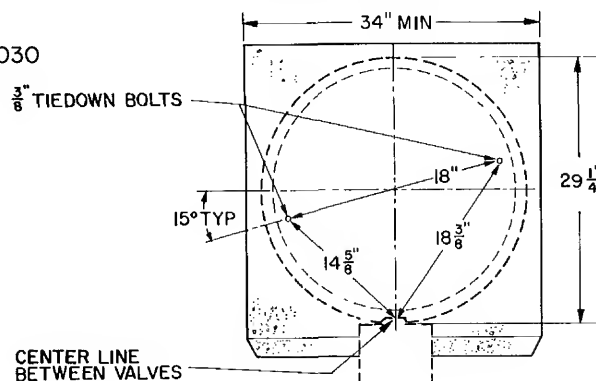

Fig. 3 — Dimensions, Connections and Mounting Pad (Refer to Tables 1 and 2.)
INSTALL OUTDOOR UNIT — Install outdoor unit on a solid, level mounting pad on roof, ground or balcony. It is recommended that unit be attached to pad using field-supplied tiedown bolts. Fasten unit to pad using holes provided in unit basepan. See Fig. 3.
3. Allow ample clearance for air filter to be removed by pulling straight downward. See Fig. 3, 18.
2. Be sure to allow a minimum clearance of 12 in. from bottom of box. See Fig. 3.
IMPORTANT: *Maximum* equivalent refrigerant line length between control box and outdoor unit must not exceed 30 feet. Maximum elevation differential is 20 feet. Refer to Fig. 3 for service clearances. See Table 3 for additional charge needed.